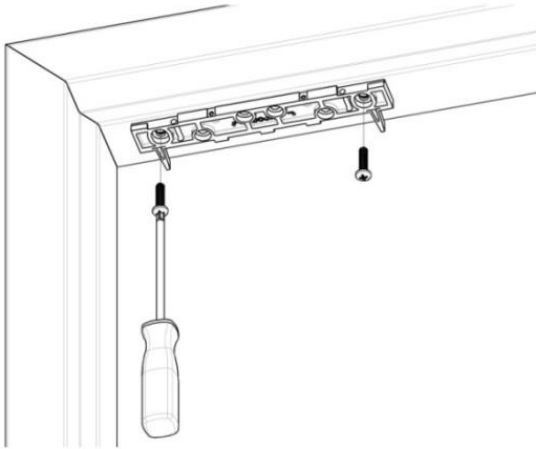

Figure 16. Installing the Bracket
12. Temporarily **INSTALL** the bracket with spacers against the closed door using a Phillips screwdriver (see Figure 16, “Installing the Bracket”).